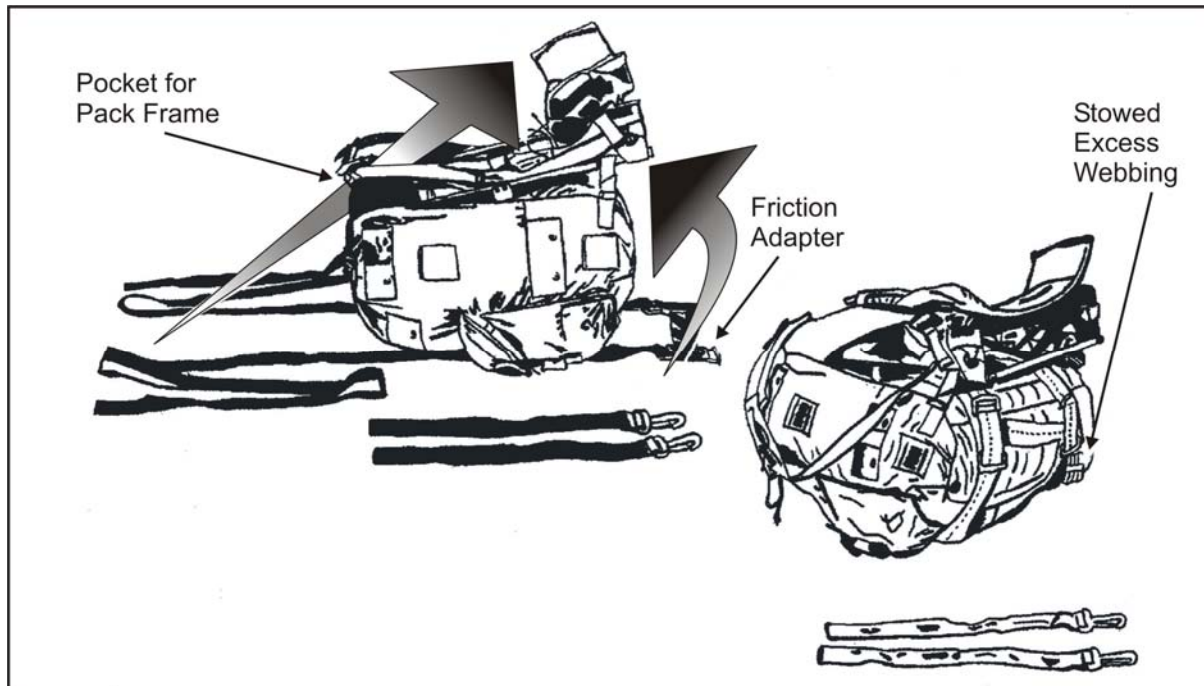

Figure 5-5. Combat Pack and Frame Rigged With the Modified H-Harness
- Positions the modified H-harness on the floor or ground with the friction adapters down. He places the pack, frame up, over the harness making sure that the cross straps are to the top of the pack and the friction adapters are touching (or near) the bottom of the frame (Figure 5-5, page 5-8).